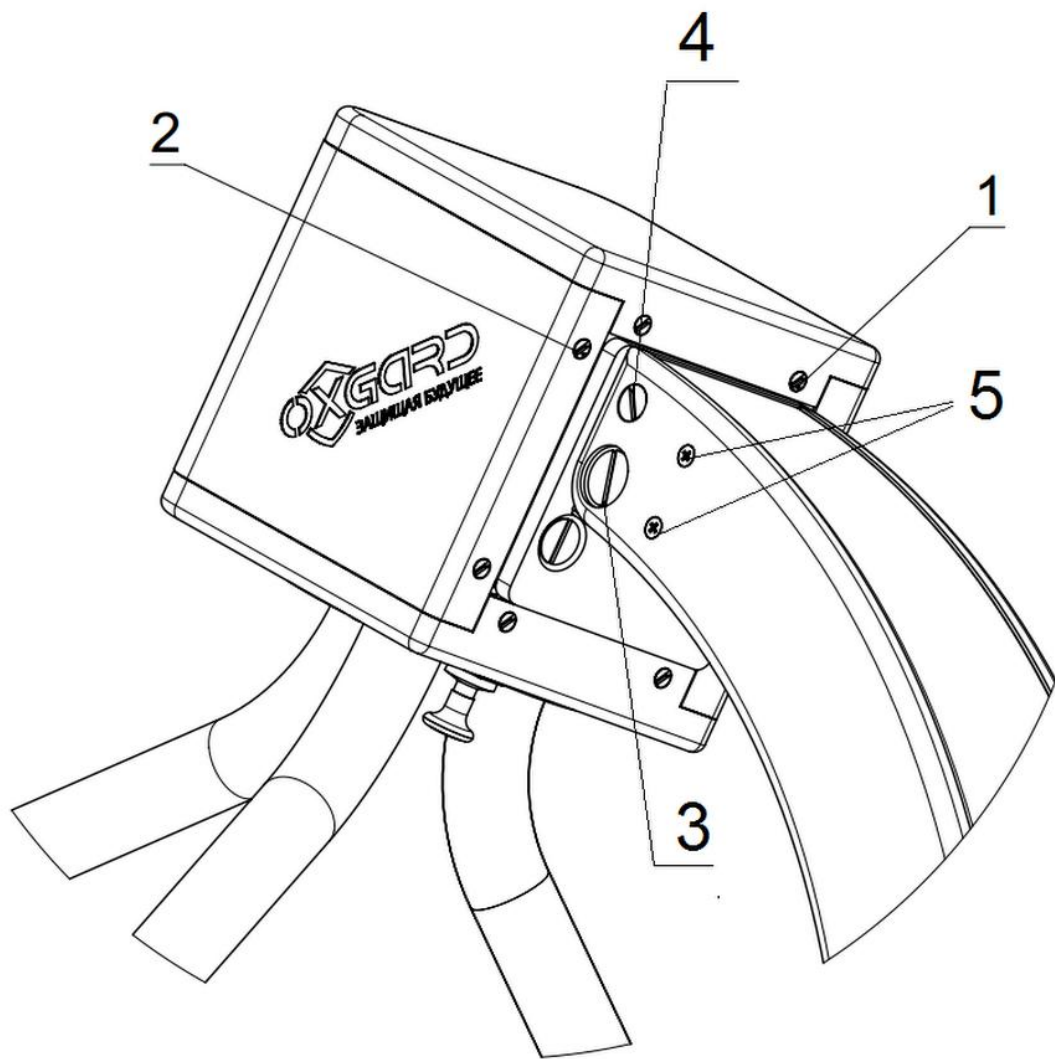
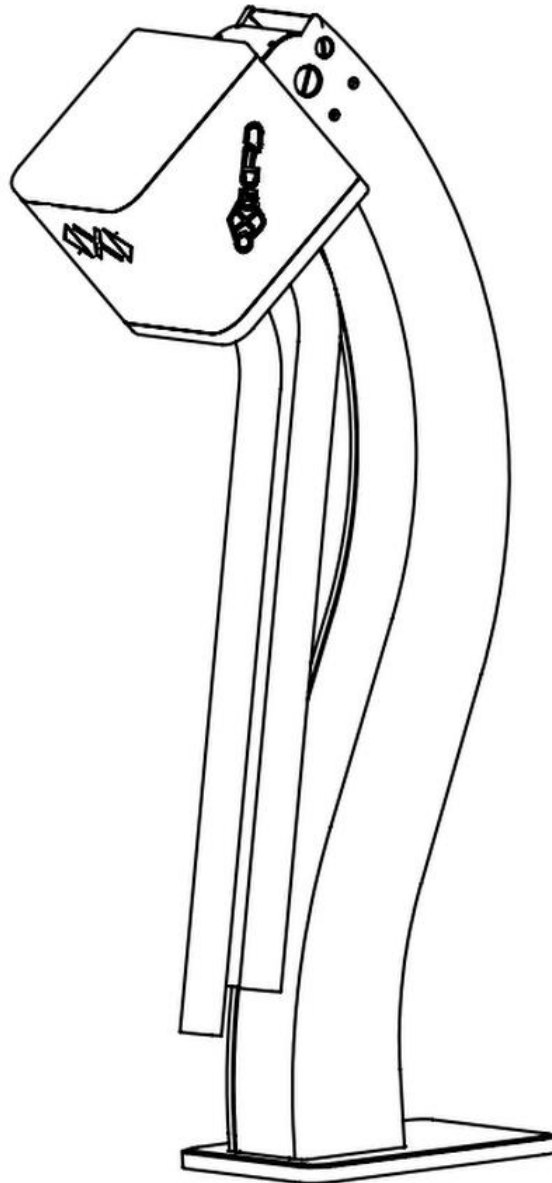

Fig.9.
Fig. 10.
- unscrew a fixing screw 4 (Fig.9) and elevate the turnstile head up to the stop.
- screw in a fixing screw 4 (Fig.9) for fasten purpose of a turnstile head
- screw in a screw 3 (Fig.9) for secure fastening of the turnstile head.
This mode is used for transportation. To enter this mode, arms shall be folded as described in “Antipanic” mode. Raise all folded arms to horizontal position, then fully unscrew the screw 4 (Fig.9) located on turnstile housing, loose the screw 3 (Fig.9) and move the turnstile head down so that all folded arms would fit the bent of the turnstile leg (Fig.10).